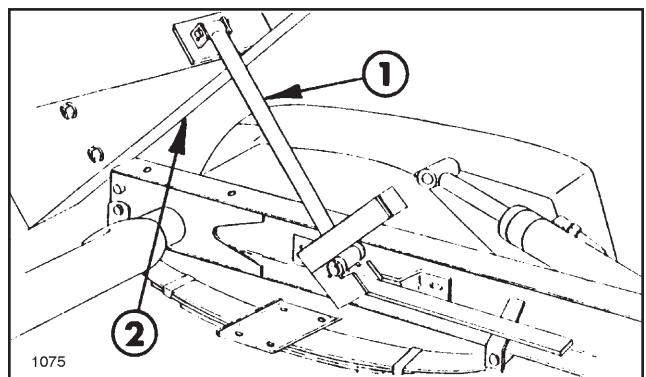

FIG. 10
11. Assemble (2) 3/8" long Spacers, a clevis pin, and a cotter pin to one end of the Strut Support Rod (FIG. 10).
12. Insert end of the Rod Assembly with installed spacers through Support Bracket located on the left side of the vehicle. Attach the other end to the inside of the Tank Skid at the rear bulkhead using a clevis pin and cotter pin. See FIG. 10.